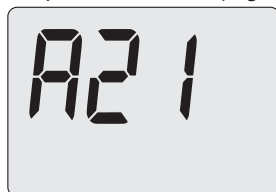

Figure 9.24
- Press button 13 and hold until the LCD display shows the code **A21**, indicating entry into “parameter A21” (Figure 9.24).
- Press 12 or 13 (Figure 9.18) to confirm the value entered and return to the list of parameters (Figure 9.24).